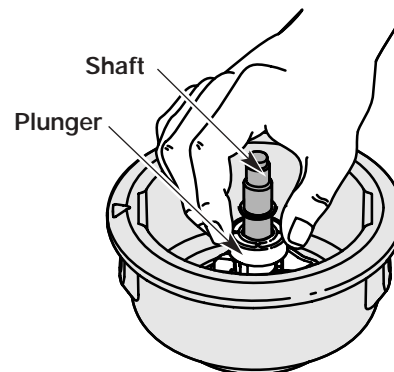

Fig. 28
5. Clean the shaft and the inner surface of the outer spool. To clean the shaft underneath the plunger, press down on the plunger (Fig. 28). Remove any dirt or debris from the shaft.